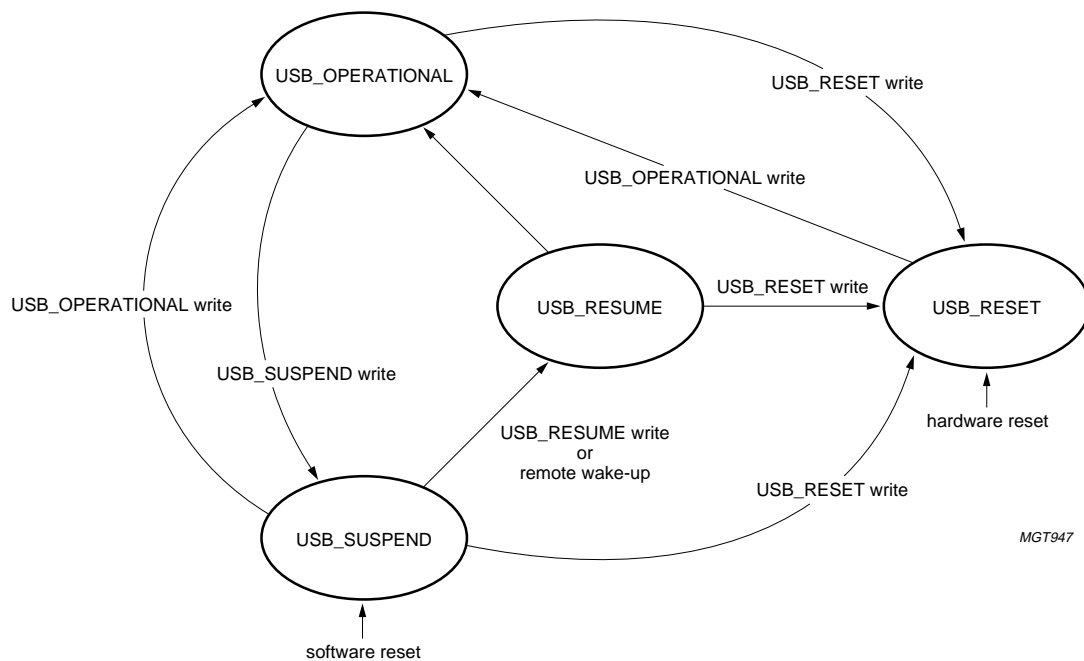

Fig 23. ISP1161 HC's USB states.
The HC Driver can perform only the USB state transitions shown in Figure 23.
**Remark:** The Software Reset in Figure 23 is not caused by the HcSoftwareReset command. It is caused by the HostControllerReset field of the HcCommandStatus register (02H - Read, 82H - Write).